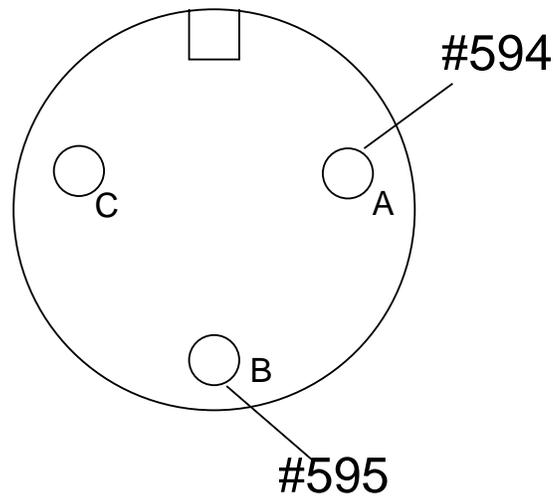

FIGURE B.5 Travel Motor Connector Pins
2. Using the ohmmeter measure the motor resistances per Table B.4. Also see Figures B.5. and B.6\*